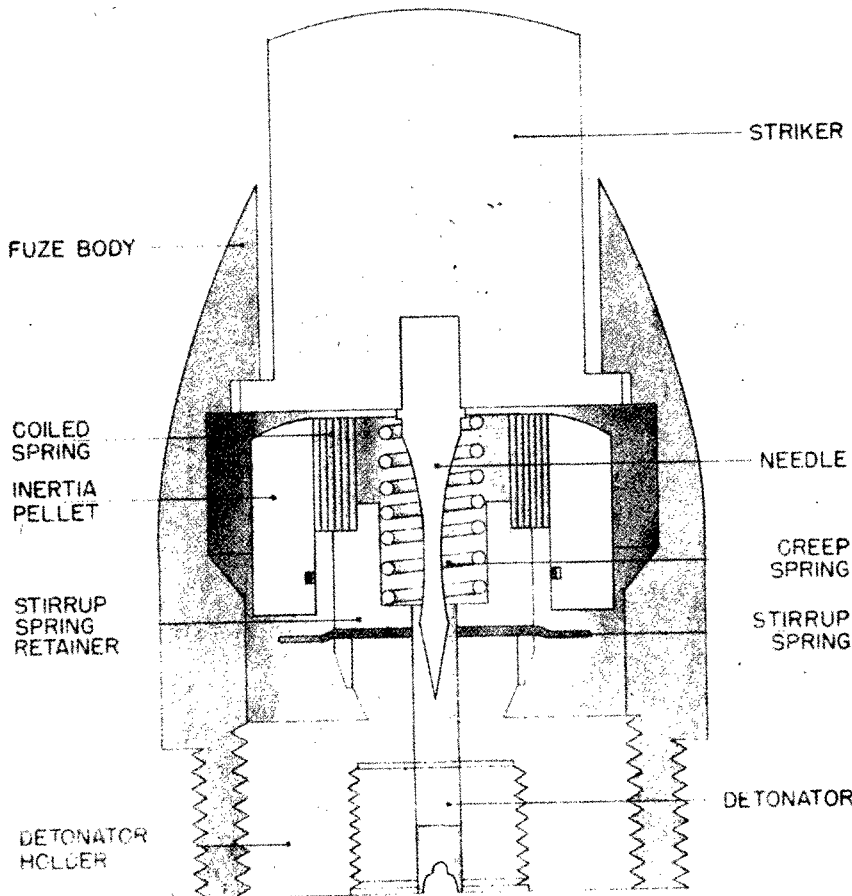

Figure 561—A. Z. 5075, A. Z. 5075 M. K.
**EMPLOYMENT:** Nose fuze for the 3.7-cm Strel-granate (3.7-cm Rodded Bomb) fired from the 3.7-cm Pak. (See fig. 561.)